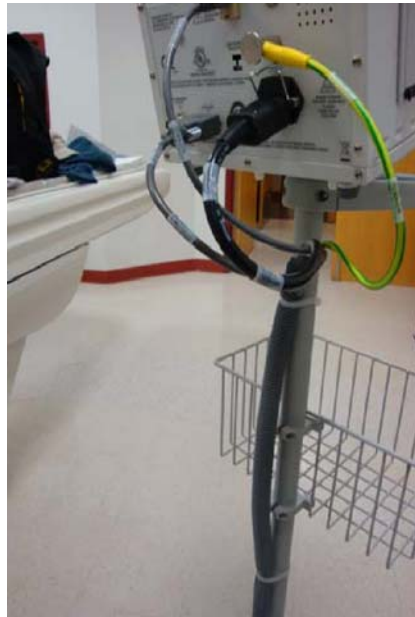

Figure 2-20 Cables Strain Relieved to Stand
- 10.) Strain relief the cables to the monitor stand, and to the gantry base covers using tie-wraps. (See Figure 2-20).